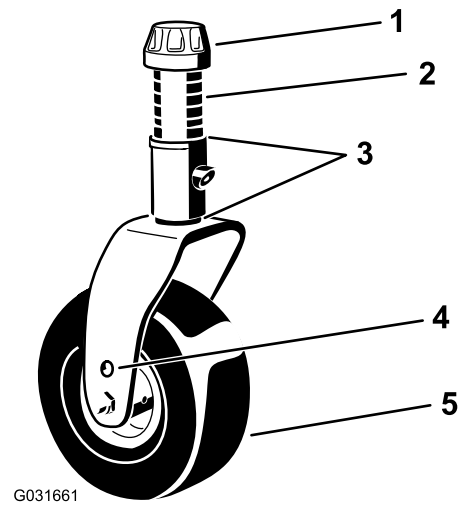

Figure 21
4. Using the supplied caster-cap wrench, loosen the tensioning cap and remove it from the caster-spindle shaft and slide the caster shaft out of the caster arm (Figure 21).